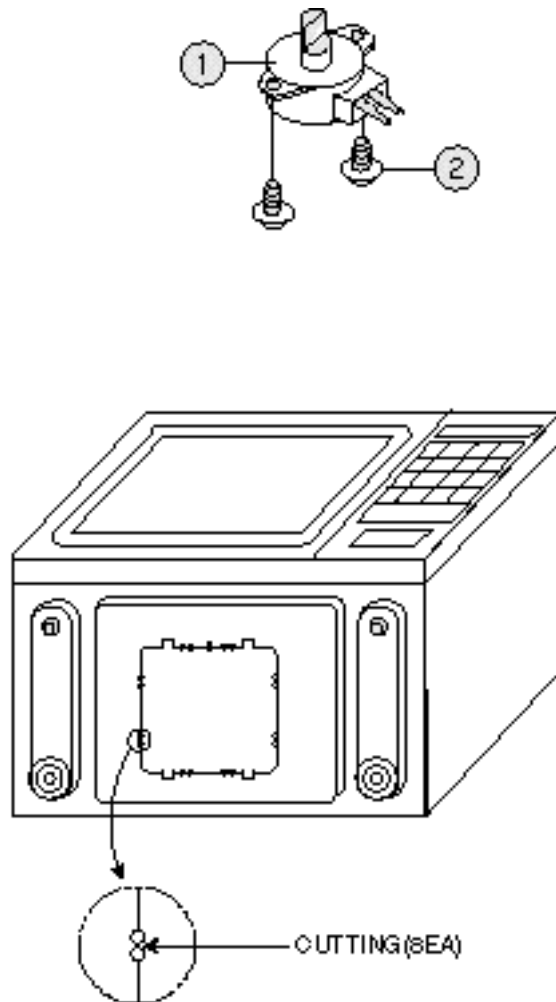

Fig. 9
9. To remove tray motor and under Heater. (Refer to Fig. 9)
- 1) Cut the tray motor cover parts from the base plate (Refer to Fig. 9).
- 2) Remove two screws (2) which secure the tray motor (1).